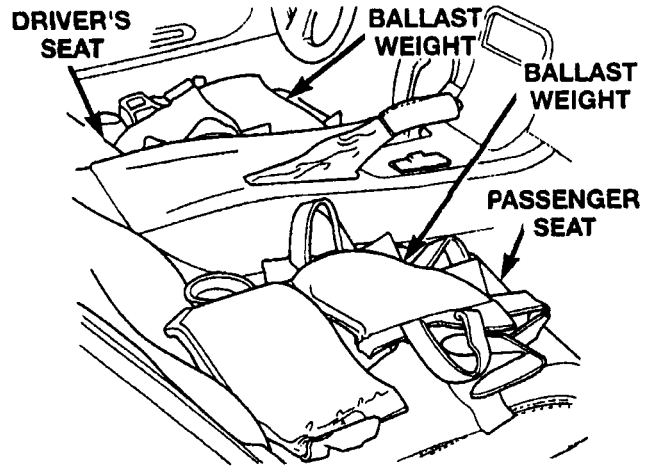

Figure 27
2. Add ballast weight as required to the passenger compartment of the vehicle to lower the front of the vehicle to the specified design height (Figure 27).
The approximate total weight needed to lower the vehicle to its design height is 400 lbs. (180 Kg). The weight distribution in the vehicle is about 330 lbs. (150 Kg) in the passenger compartment (165 lbs. (75 Kg) per seat) and 70 lbs. (30 Kg) in the trunk (Figure 27 and 28).